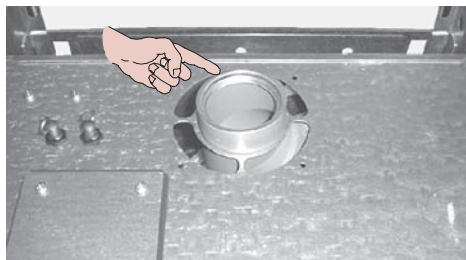

Figure 5.7
The diaphragm must be positioned as shown in Figure 5.7.
**The diaphragm must be inserted or removed following the instructions provided in this chapter. The diaphragm must be positioned as shown in Figure 5.7.**